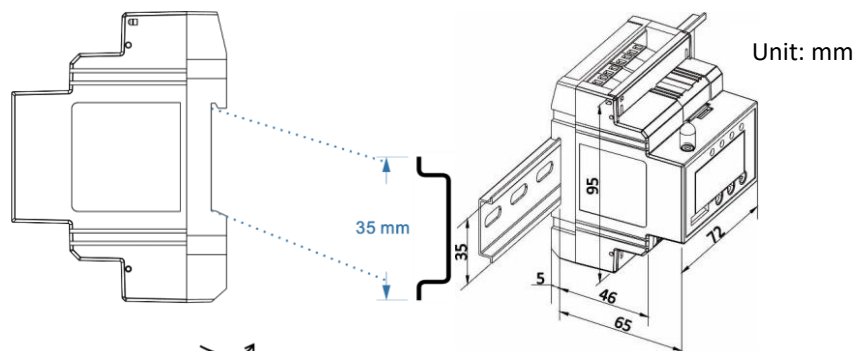

Figure 2-12 DIN-Rail Installation
- Align the top of the mounting channel at the back of the PMC-350-C at an angle against the top of the DIN Rail as shown in **Figure 2-12** below